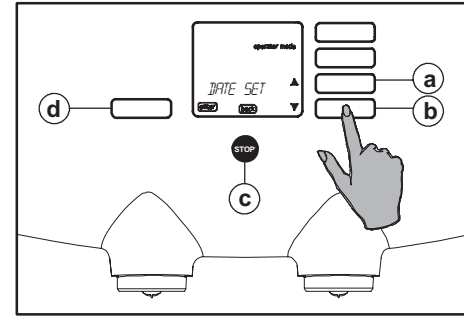

Fig. 55 Setting the date
5. Use the scroll buttons \updownarrow until the option "DATE SET" appears in the display (fig. 55 a or b).
6. Press the enter button (fig. 55 d). The display shows: "DAYNAME".
7. Press the enter button again (fig. 55 d).
8. Select with the scroll buttons \updownarrow (fig. 55 a or b) the correct day (Monday to Sunday).
9. Press the enter button (fig. 55 d) to confirm the setting. The display shows: "DAYNAME" again.
- Press the stop button 3x (fig. 55 c) to stop programming or:
- Use the scroll buttons \updownarrow (fig. 55 a or b) to select the options "DAY, MONTH or YEAR", if these must be changed too.
11. Press the enter button (fig. 55 d) and use the scroll buttons \updownarrow (fig. 55 a or b) to change the day (1-31), the month (1-12) or the year.
12. Press the enter button (fig. 55 d) to confirm the setting.
13. Now press the stop button 1x (fig. 55 c) if you also want to change the "TIME" or 3x to stop programming.
14. After pressing the stop button 1x, the display shows: "DATE SET" (fig. 55 c).